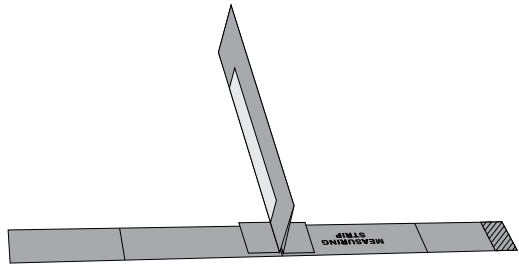

Figure 12
3. Place the long strip on a flat surface. Note the three alignment marks along the strip. Select one of the handles and, pinching the tabs together, center them over one of the marks (Figure 12). Tape the tabs to the strip. Repeat for the other two handles.